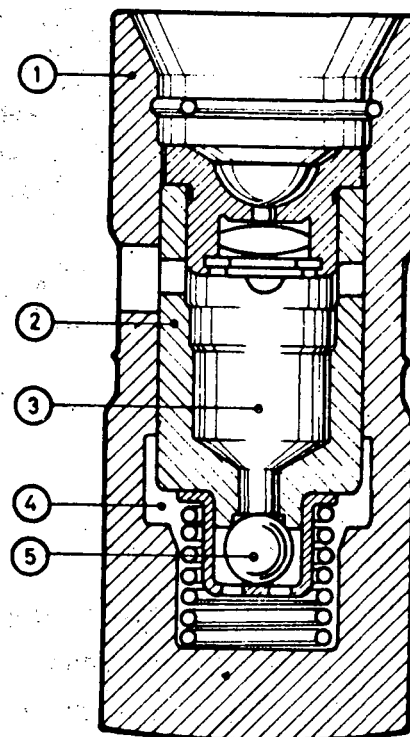

Fig. 2
HYDRAULIC TAPPETS (fig. 2). They consist of a body (1), in which there is a piston (2) which comprises the upper chamber (3). The lower chamber (4) is enclosed between the bottom of the body and the piston; both are connected by a port and a spherical valve (5). This valve enables the flow of oil from the upper chamber to the lower one.